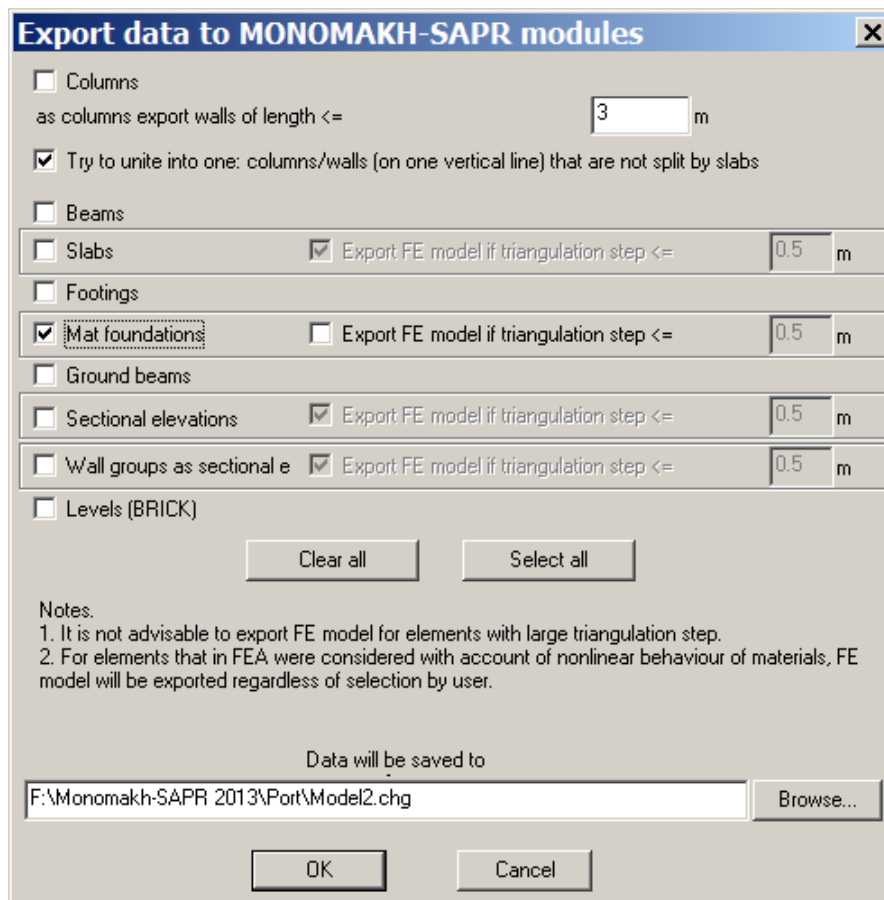

Figure 1.28.1 Export data to MONOMAKH-SAPR modules dialog box
- ⇒ In the **Export data to MONOMAKH-SAPR modules** dialog box (see Fig.1.28.1), do the following: